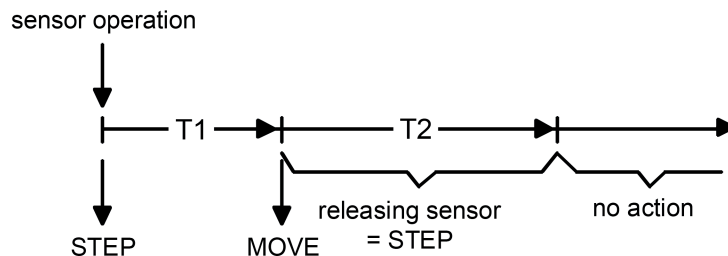

Figure 26: Telegram concept when a sensor surface of the channel function is touched "Venetian blind Step / Move / Step"
- Immediately on pressing a sensor surface the device transmits a short time telegram to the bus (figure 26), whereupon a running drive is stopped and the "time between short and long time operation" T1 is started internally. If the pressed sensor element is released again within T1, the device transmits no further telegram. This short time serves the purpose of stopping a continuous movement.